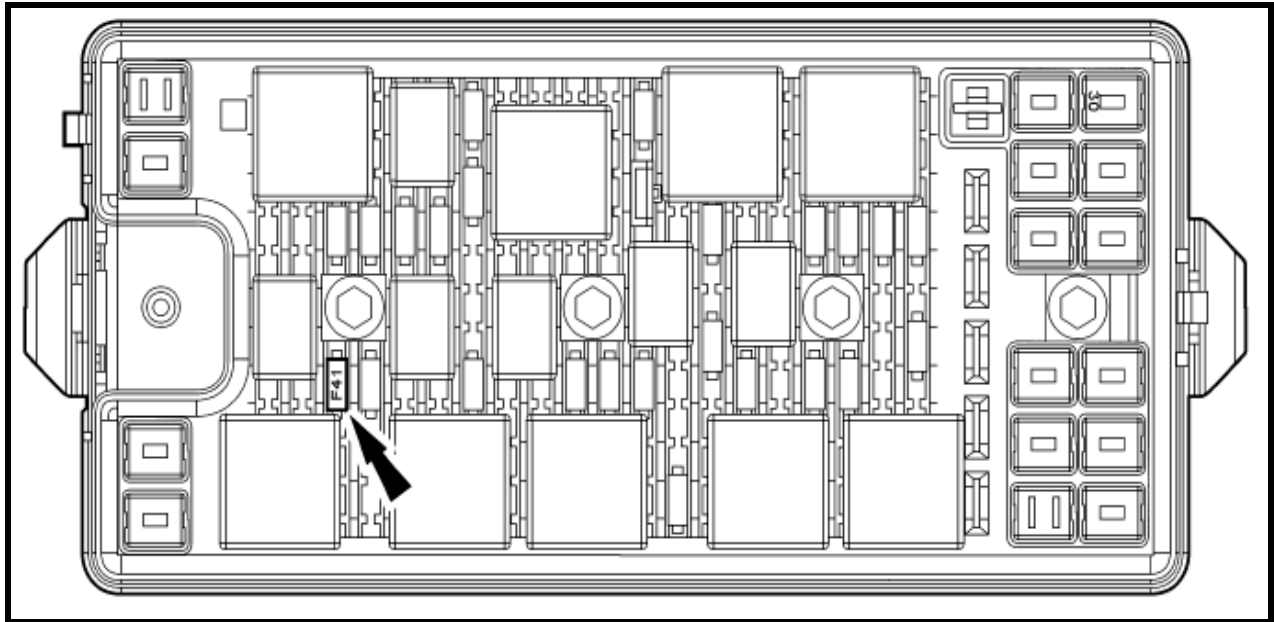

Fig. 1
**NOTE:** The fuel pump module fuse is located in the bussed electrical center, location F41 (See Fig. 1).